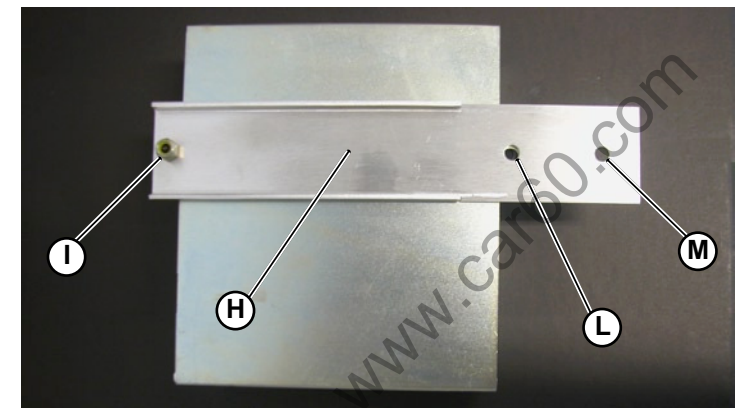
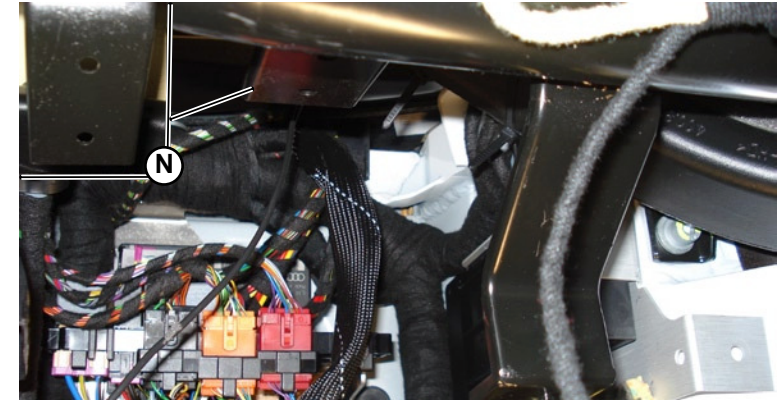
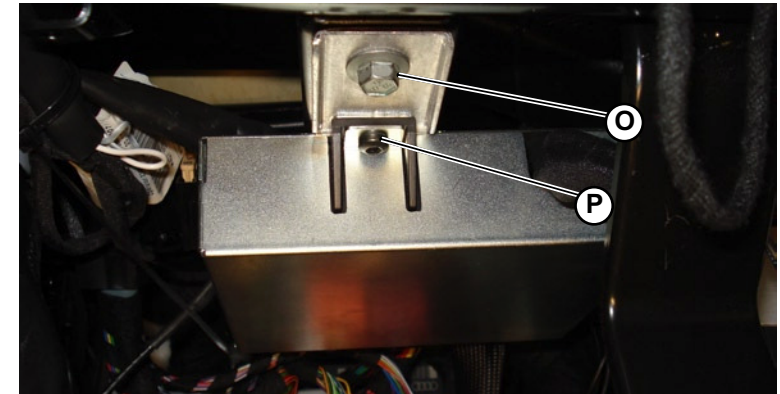

Fig.22
Fig.23
Fig.24
35. Place metal bracket (**3-Fig.1**) supplied with the kit on (**H-Fig.22**) the whole VTS ECU and metal protection cage so that the hole of the metal bracket coincide with the two fixing hole of the whole (**I-Fig.22**, **L-Fig.22**). The metal protection cage have to stop on the flat face of the metal bracket; as a consequence the bended edge of the bracket have to be direct upwards, as shown in the picture beside (**Fig.22**).
36. Using one M5 torx screw (**14-Fig.3**) and the proper M5 nut (**12-Fig.3**) supplied with the kit fix the metal bracket (**H-Fig.22**) on the whole VTS ECU and metal cage; at this point fix the component using only the hole (**I-Fig.22**) place at the end of the metal bracket, as shown in the picture beside (**Fig.22**).
37. Locate the black metal support (**N-Fig.23**) fixed at the car's chassis behind the glove box of the passenger side.
38. Position the whole metal bracket, VTS ECU and metal cage (assembled by the previous operations 35 and 36) below the black metal support (**N-Fig.23**) located at the previous point. The metal bracket have to be positioned so that its two nearest hole (**L-Fig.22**, **M-Fig.22**) perfectly coincide with the hole present on the black metal support of the car's chassis.
39. Using one M6 screw (**13-Fig.3**) and the proper M6 nut (**11-Fig.3**), fix the bracket (**H-Fig.22**) at the black metal support (**N-Fig.23**) using only the hole nearest the car's chassis (**O-Fig.24**).
40. Insert the second M5 screw (**14-Fig.3**) in the other hole of the black metal support (**P-Fig.24**) and pass it also through the hole of the bracket and the metal cage. Using the proper M5 nut (**12-Fig.3**) fix the bracket, the cage at the black metal support (**P-Fig.24**) of the car's chassis. In this way the metal protection cage that contain the VTS ECU and the metal bracket supplied with the kit are fixed at the car's chassis.